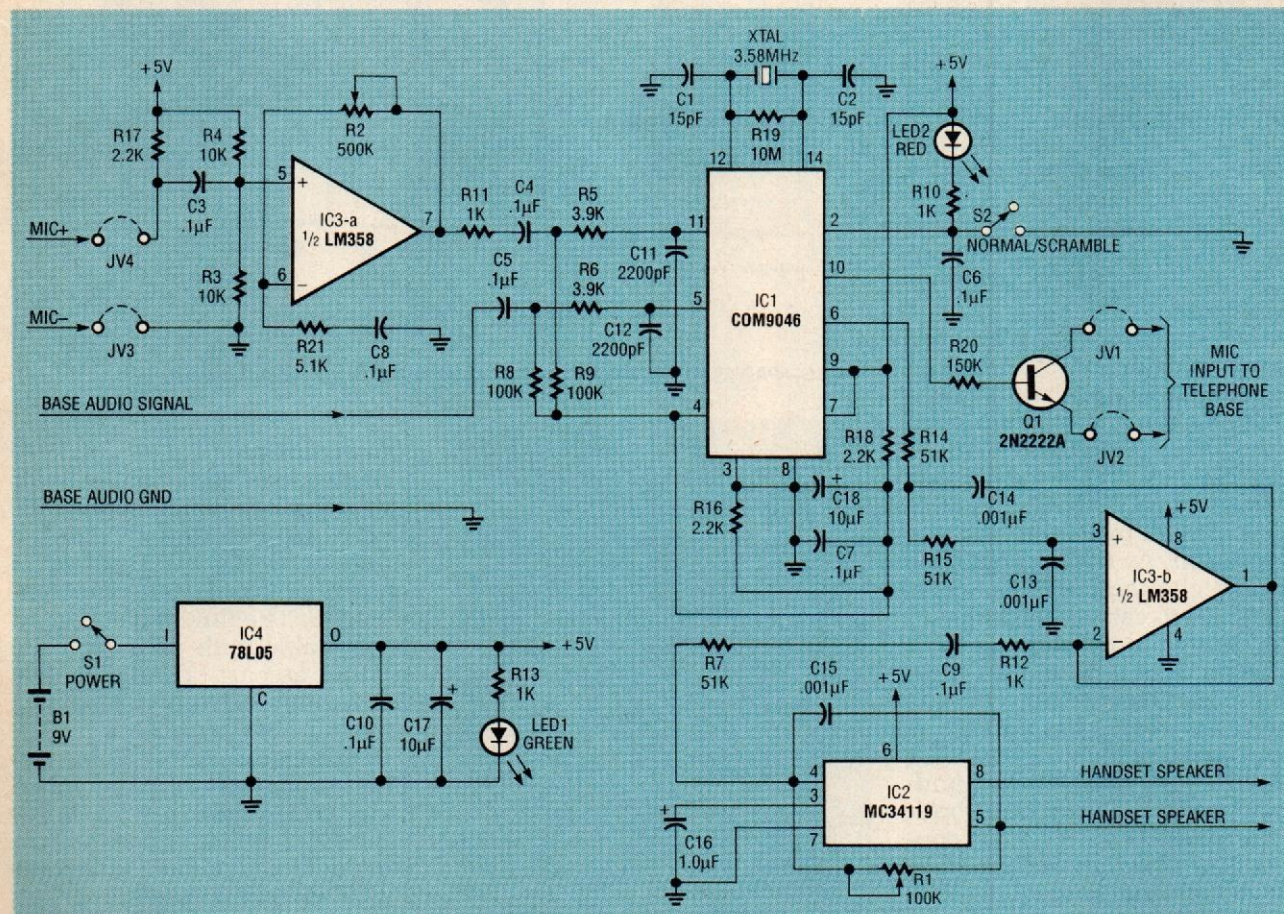

FIG. 4—SCHEMATIC DIAGRAM FOR THE TVS250 voice scrambler.
The filter's 3-dB cutoff point is determined by the resistors and capacitors connected to pins 5 and 11. The values of those components were selected so that the cutoff point is less than 20 kHz. As shown in the schematic, Fig. 4, both R5 and R6 have values of 3.9 K, and both C11 and C12 have values of 2200 pF. Applying those RC values to the equation for filter cutoff frequency,  $F_o = (2\pi RC)/2$ , yields a 3 dB cutoff frequency of about 18.5 kHz.
The 9 volts can be reduced to 5 volts by IC4, a 78L05A low-voltage regulator, as shown in schematic Fig. 4. The 5-volt input is applied to a voltage divider consisting of R16 and R18. Pins 7 and 9 of IC1 are connected to the 5-volt source. Pins 3 and 8 are connected to the supply ground (0 volts). The midpoint of the two resistors R18 and R16 is connected to pin 4 of the IC. Because the two resistors are of equal value, their junction produces  $+2.6$  volts.
4) Remove the shorting clips from posts JU1 to JU4. This removes switches S4 and S5 from the circuit (see Figures 4, 5, 6, and 7).